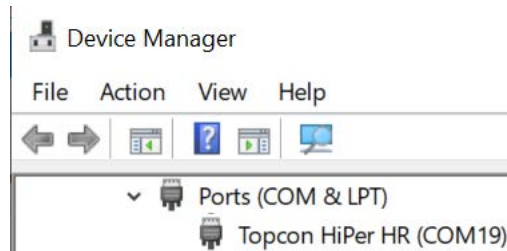

Figure 5-1: Device Manager
After plugging the receiver into to the computer, the operating system will report a new external device has been found. It will be assigned to a virtual COM port. You may check its number in the Windows Device Manager (Figure 5-1).
2. In the Windows **Device Manager**, check the number of the virtual COM port (Figure 5-1).